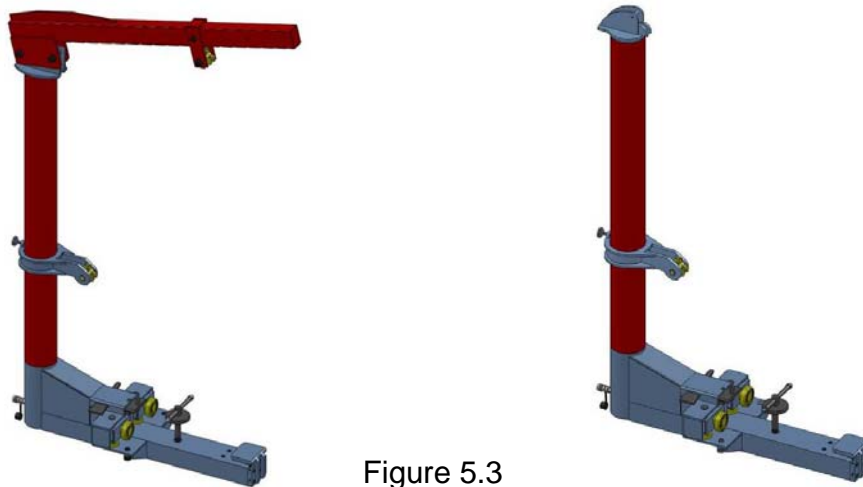

Figure 5.3
5.3 Auto Pulling system: Include tower, chains and some other components. Function: pull on the damaged part of the car. See figure 5.3